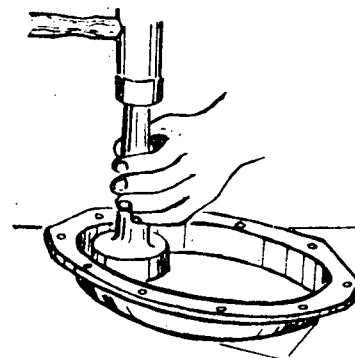

Fig. 5
- c) Apply adhesive on the housing area and install the oil seal (fig. 5).